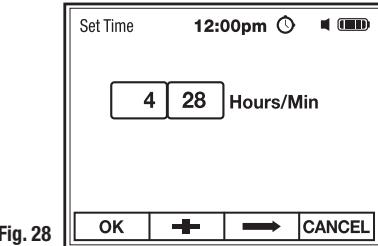

Fig. 28
2. Use the **F2 +** soft key to set numeric value (highlighted in red), (Fig. 28).
3. Use the **F3 ➤** soft key to select Hours or Minutes (Fig. 28).
4. Press the **F1 OK** soft key to save setting and return to Date/Time Menu (Fig. 28).